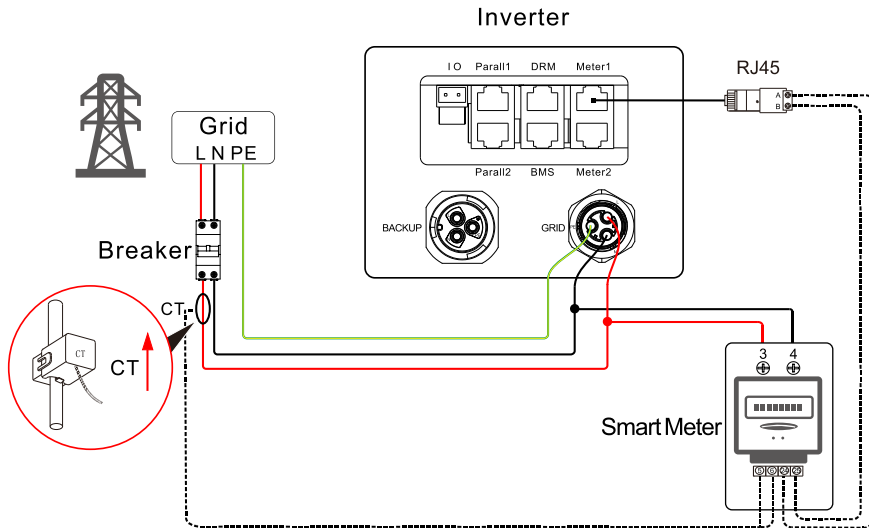
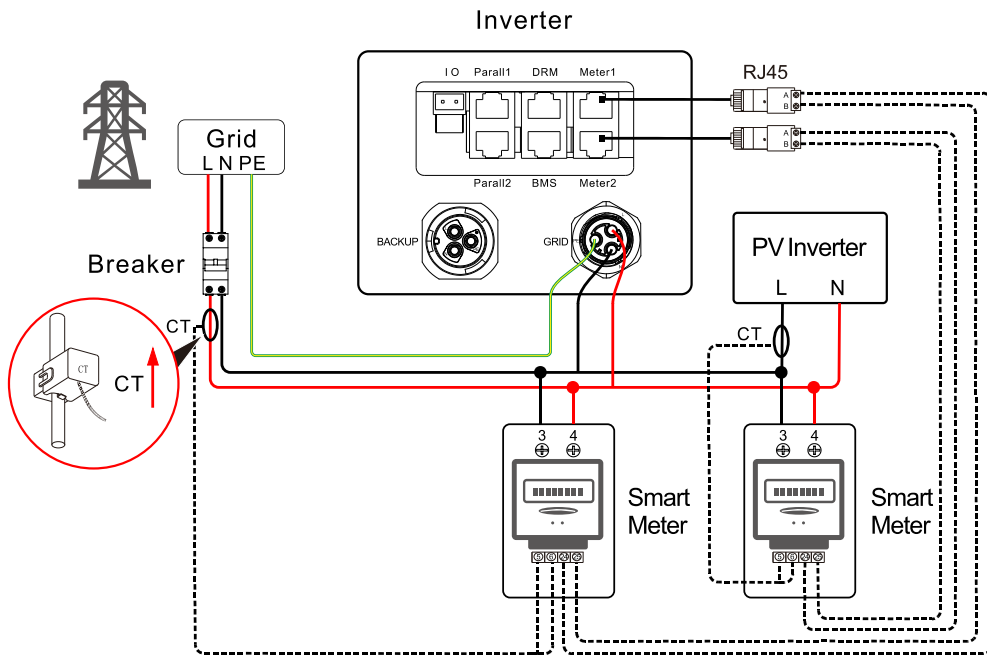
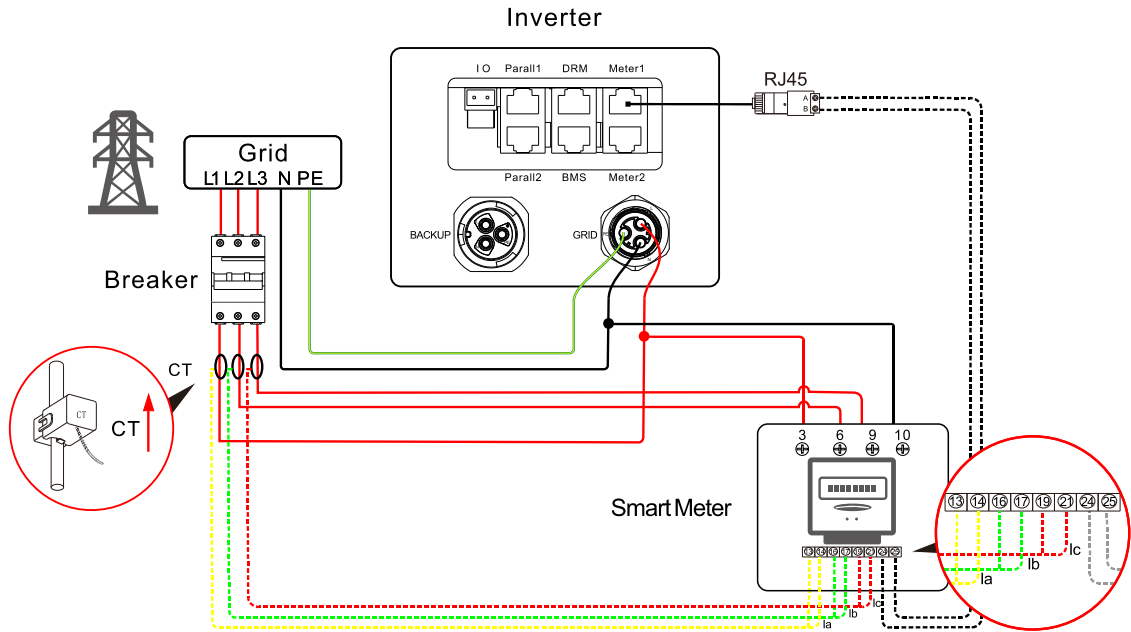
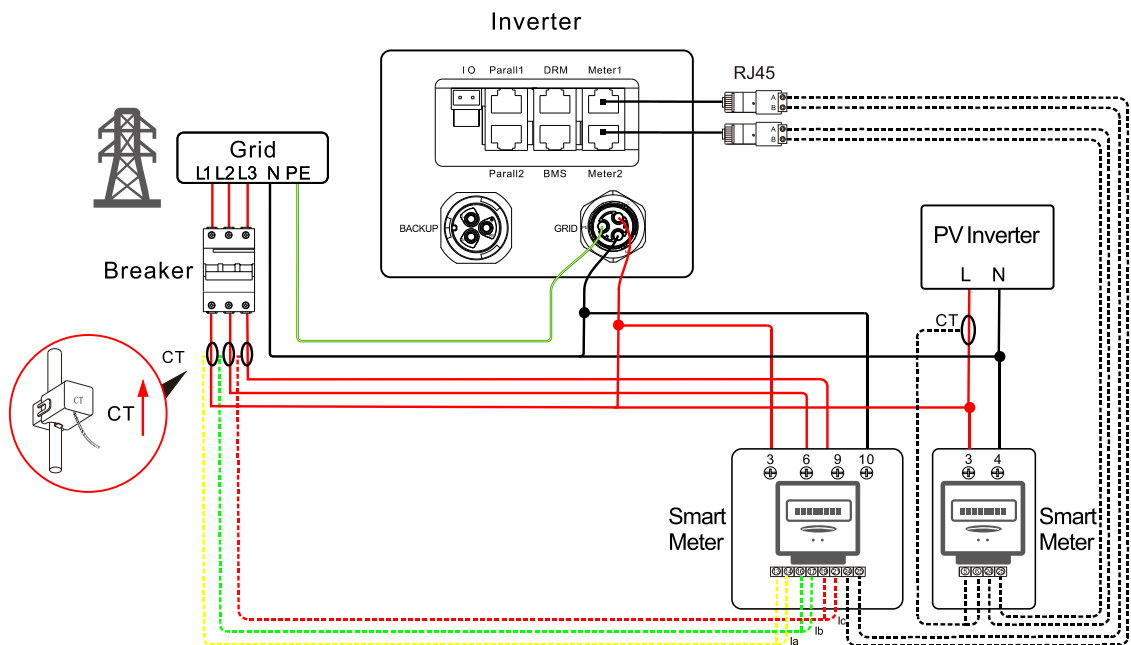

Figure 3-52 Connection diagram between communication smart meter and inverter and grid (single phase)
Figure 3-53 Connection diagram between communication smart meter and inverter and grid (single phase + single phase)
Figure 3-54 Connection diagram between communication smart meter and inverter and grid (three-phase)
Figure 3-55 Connection diagram between communication smart meter and inverter and grid (three-phase + single phase)
Meter communication port is used to communicate with smart meter to achieve zero-export. The connection between smart meter and inverter and grid is as shown in Figure 3-52, Figure 3-53, Figure 3-54, Figure 3-55.
- When there is a PV inverter in the user's home, it is recommended to install the smart meter in the grid output side of the PV inverter to ensure the accuracy of grid electricity statistics, and the address is set to A-002. As shown in the Figure 3-53 and Figure 3-55.